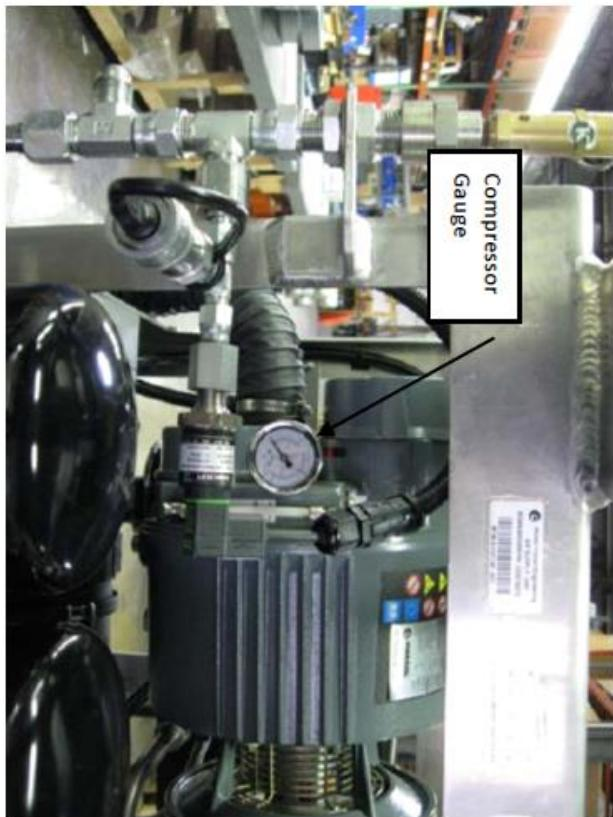

Figure 2
5. Using a 2.5mm Allen wrench, adjust the MPV set screw until the compressor pressure gauge reads  $120 \pm 2$  psi. See Figure 2.